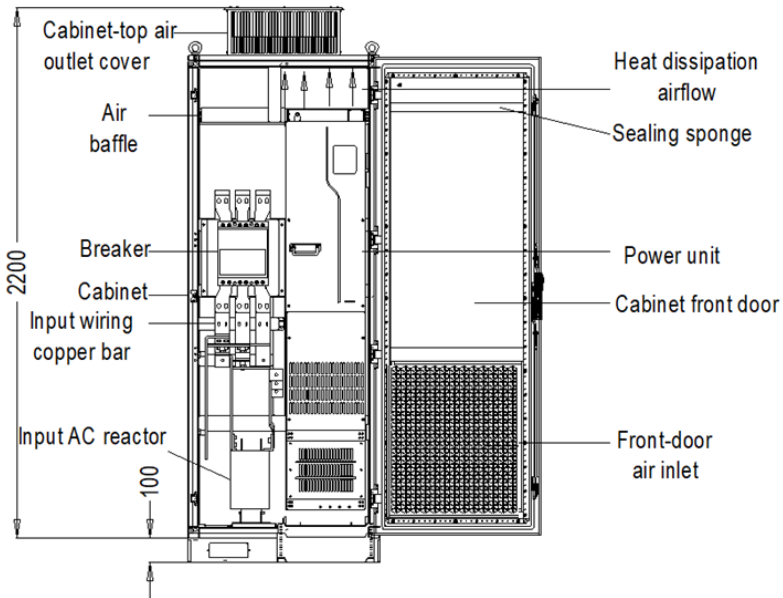

Figure 4-10 Recommended cabinet layout
- ✧ For in-cabinet mounting, see the cabinet layout diagram Figure 4-10. The cabinet frame is 2200\*800\*600 (unit: mm, including the H200 cabinet ventilation top cover). To secure the in-cabinet mounting, you must mount the H100 cabinet base. The air baffle must be mounted at the top of cabinet to prevent the hot air in the VFD outlet from circulating within the cabinet. A 40X40 sealing sponge must be used at the position corresponding to the air baffle in the front door panel, which prevents air duct short circuit. In addition, air inlet vents must be made at the lower of the cabinet door.